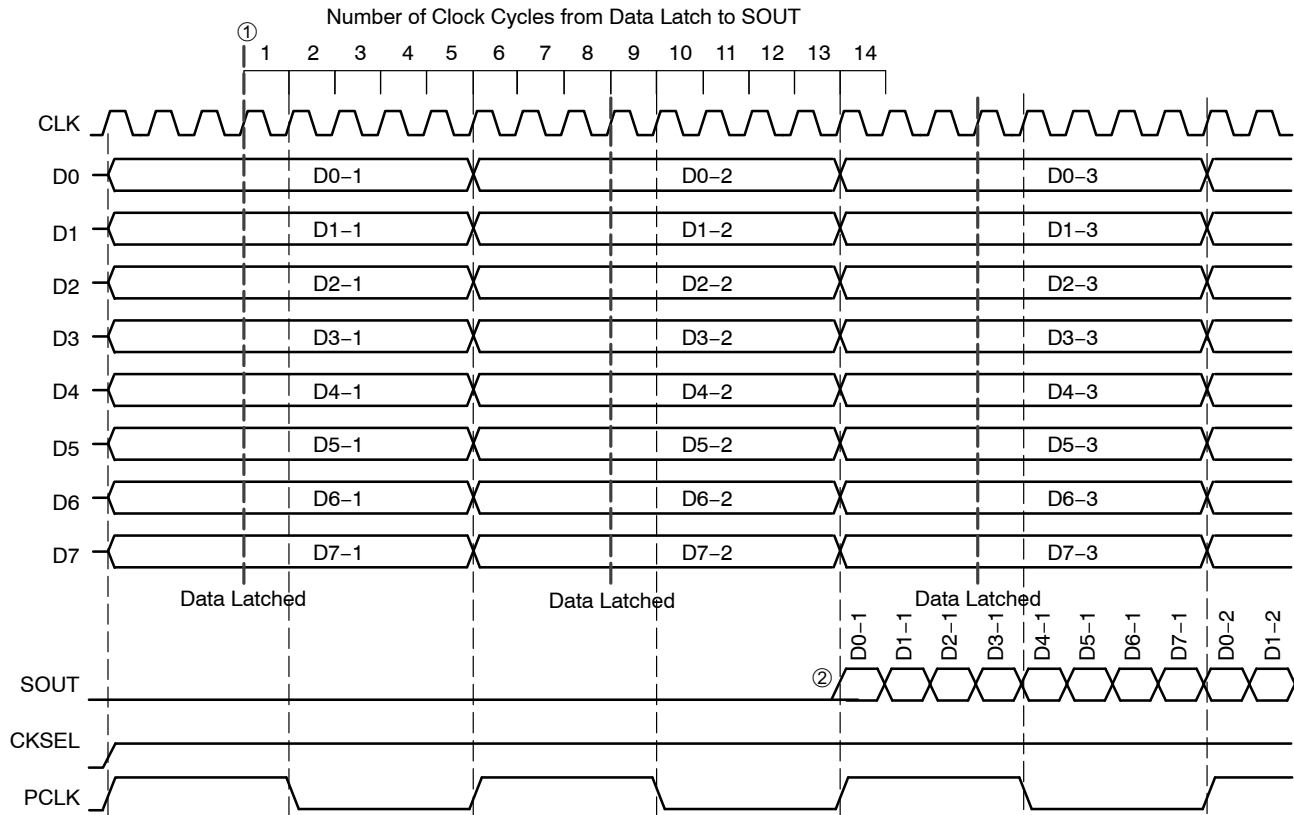

Figure 8. Timing Diagram 1:8 Parallel to Serial Conversion with CKSEL HIGH
Similarly, for CKSEL HIGH operation, the time from when the parallel data is latched ① to when the data is seen on the S_{OUT} ② is on the rising edge of the 14th clock cycle plus internal propagation delay (Figure 8). Furthermore, the PCLK switches on the rising edge of CLK.